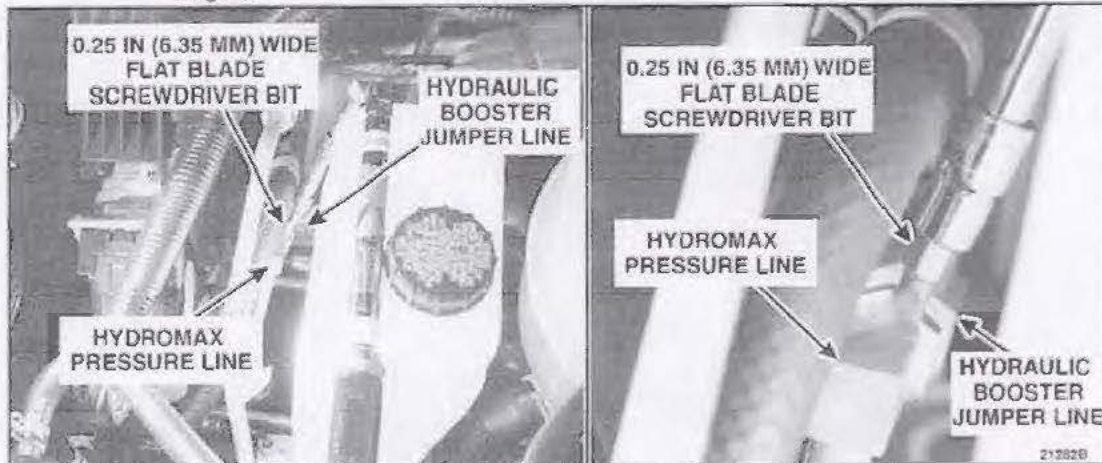

FIGURE 3
4. Using a 4 in (101.6 mm) extension and a 1/4 in (6.35 mm) wide flat blade impact screw driver bit, insert the bit between the space in the Hydromax Pressure Line to hydraulic booster jumper line at a 90 degree angle to the connection and apply 12 Nm (8.85 lb-ft) of torque to attempt to separate the line connection. **NOTE: DO NOT EXCEED 12 Nm (8.85 lb-ft).** See Figure 3.